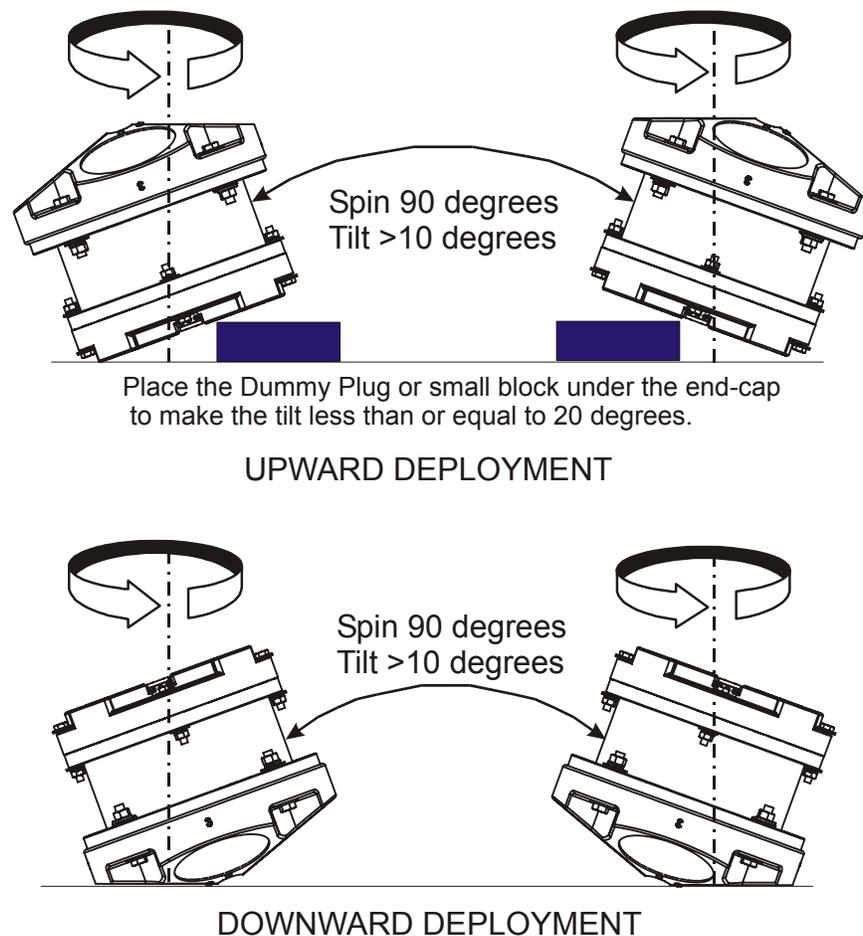

Figure 11. Compass Alignment
- d. Tilt the ADCP (see Figure 11, page 21). Tilt an upward-looking Workhorse with a block under one side of the end-cap. A 35-mm block will give you an 11-degree tilt. Check the on-screen instructions to see if the orientation is OK. Adjust as necessary.
- f. The second rotation requires the ADCP to be tilted 15 degrees in another direction than from the first rotation (see Figure 11, page 21). Follow the on-screen instructions to orient the ADCP correctly. When prompted, rotate the ADCP slowly 360 degrees (approximately 5 degrees per second).